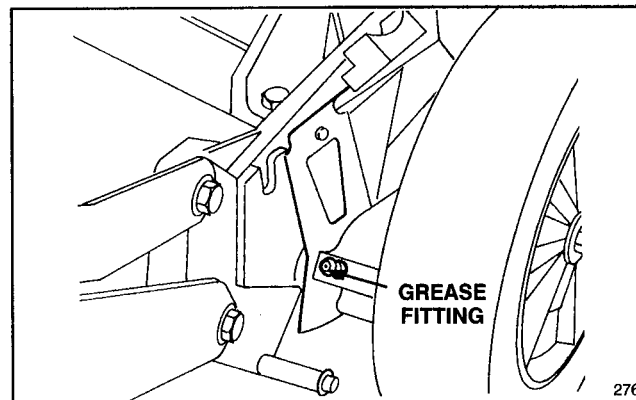

Figure 24
**2. SELF-PROPELLED MODELS ONLY**—Move rear wheel height-of-cut levers to “C” setting. Wipe grease fittings with clean rag (Fig. 24). Install grease gun onto fitting and gently apply 1 or 2 pumps of #2 Multi-purpose Lithium Base Grease. Excess pressure may damage seals.